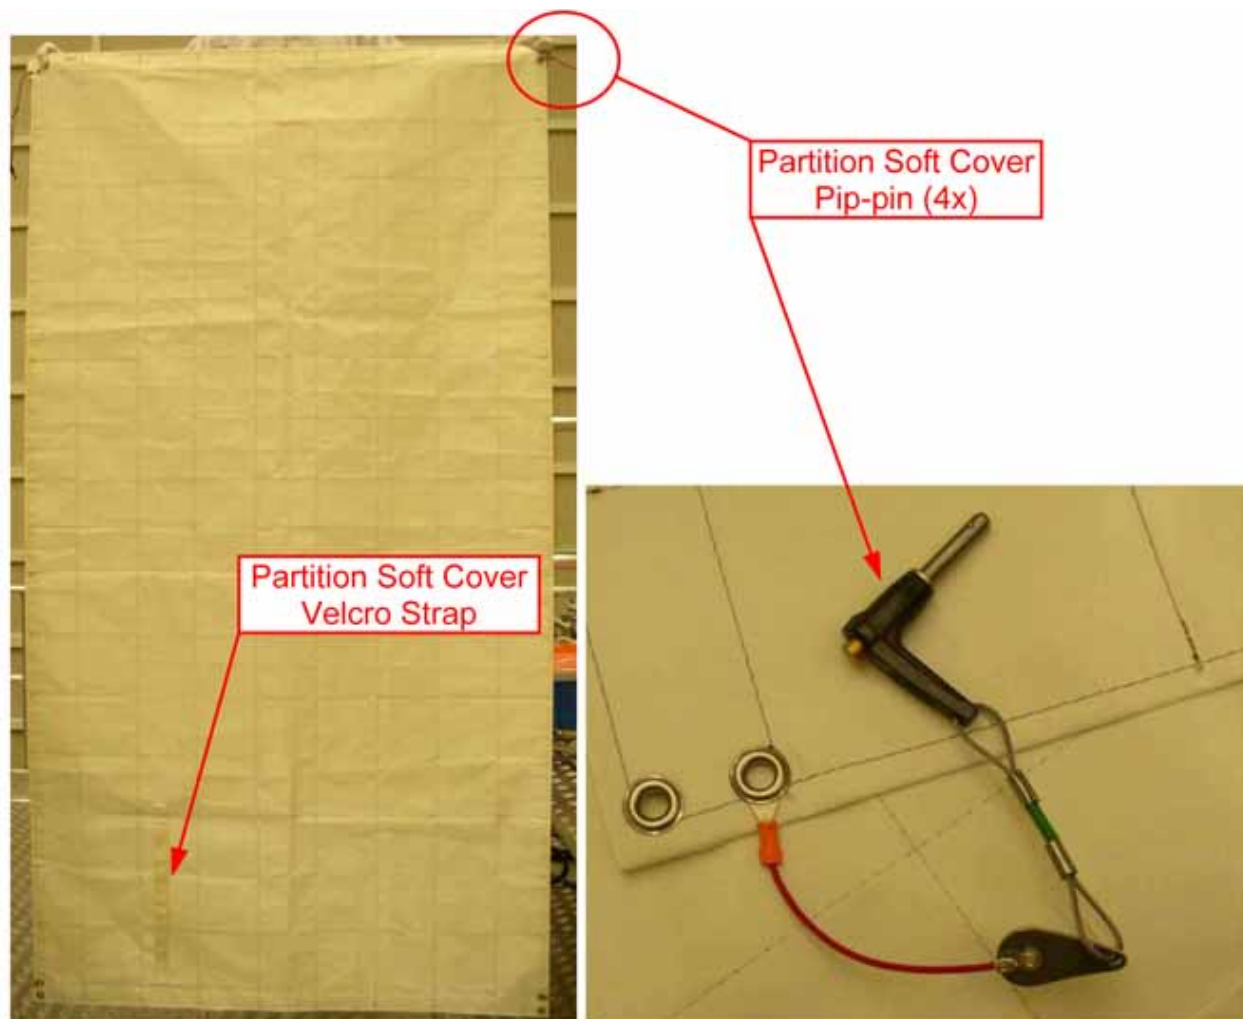

Figure 5. Partition Soft Cover and Pip-pin, Typical
- 2.1 Undo Velcro strap and unroll Partition Soft Cover. Refer to Figures 5 and 6.